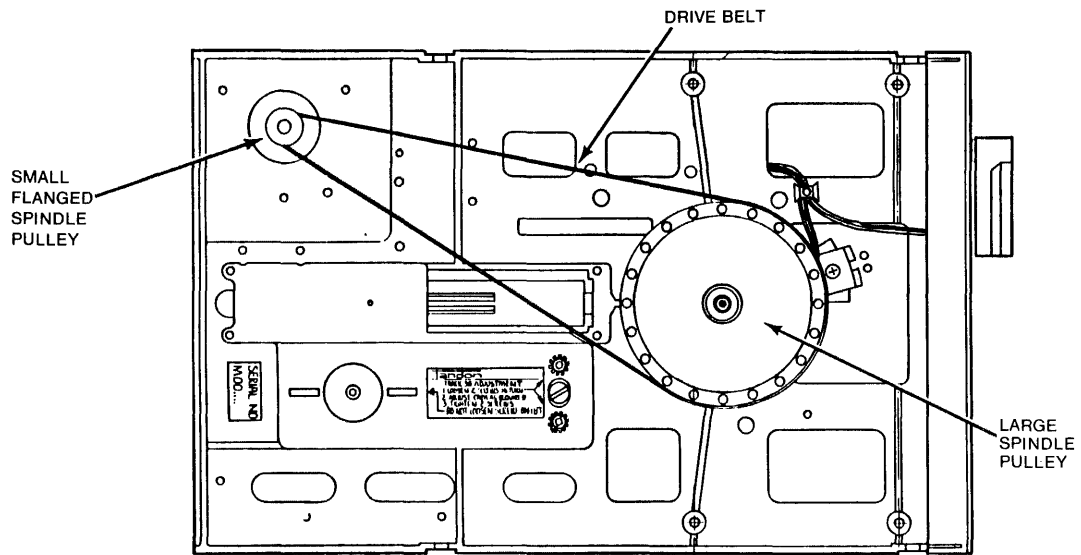

Figure 5-1
- A. Turn the drive over so that the spindle is facing upward (see Figure 5-1).